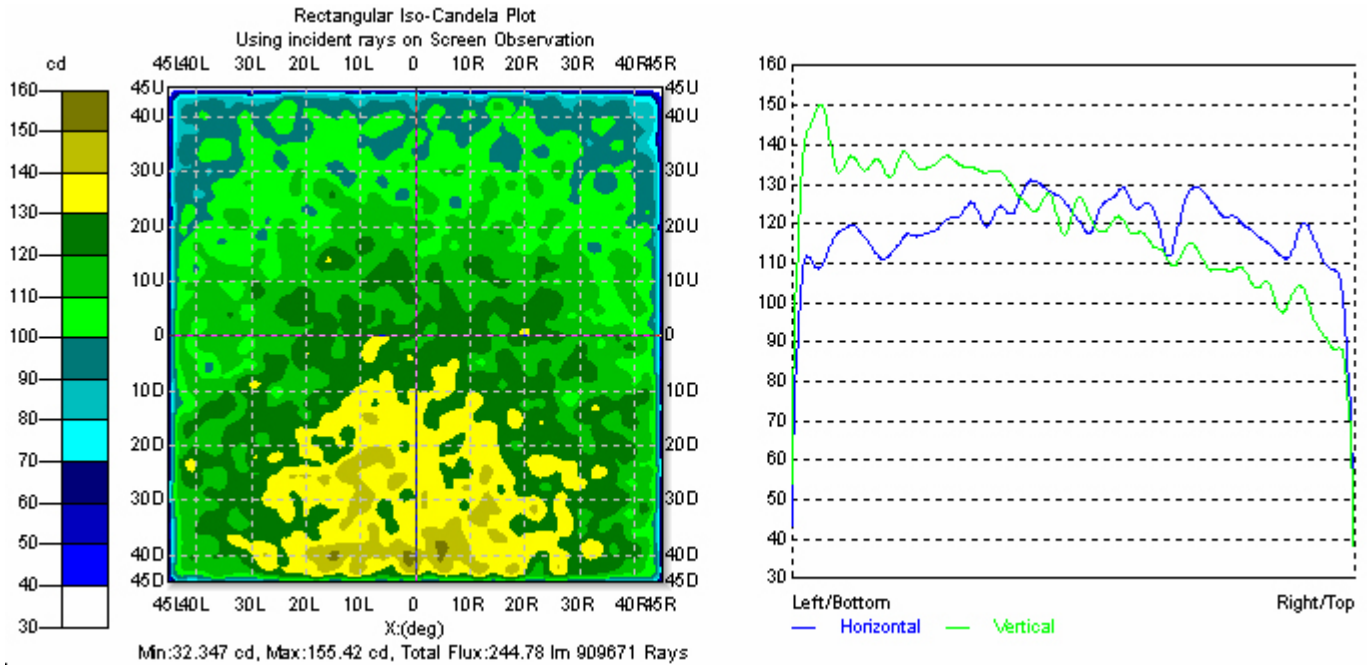

Figure 31. Resulting intensity distribution for the Backlight system.
21. Figure 31 shows the resulting intensity distribution for this model.
Note that the illuminance distribution (Fig. 29) shows a lack of uniformity across the output surface. Most of the light is emitted toward the CCFL end of the display. The intensity distribution (Fig. 31) shows that most of the rays are emitted in the negative y direction, but the intensity distribution is much more uniform than that of the illuminance. One also desires to make the intensity distribution as uniform over the angular view range ( $\pm 45^\circ$  in this case). It is up to you to improve upon performance! This is accomplished by: